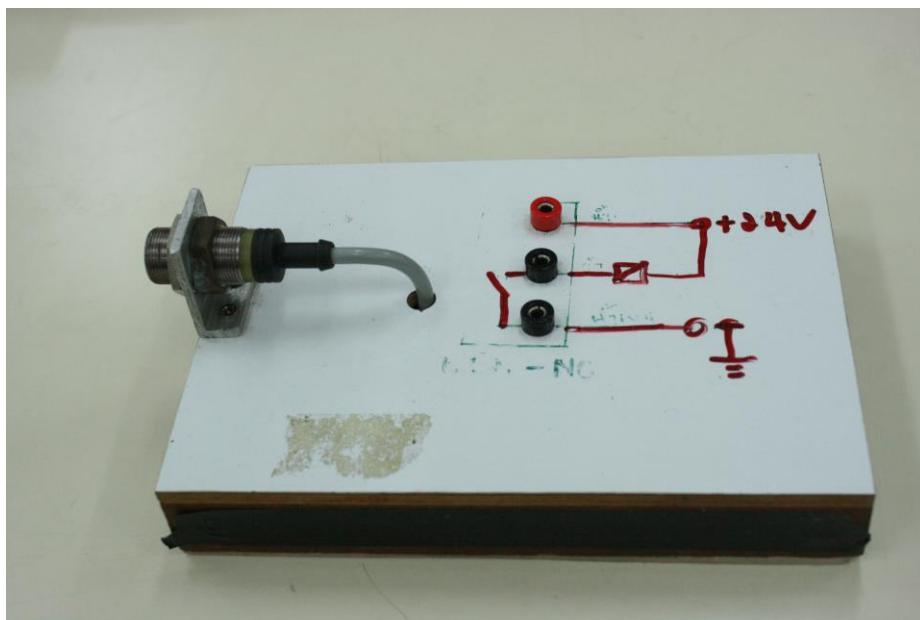

Figure 6: Inductive proximity switch board
1. Make an inductive proximity circuit according to the circuit diagram shown in Figure 6.